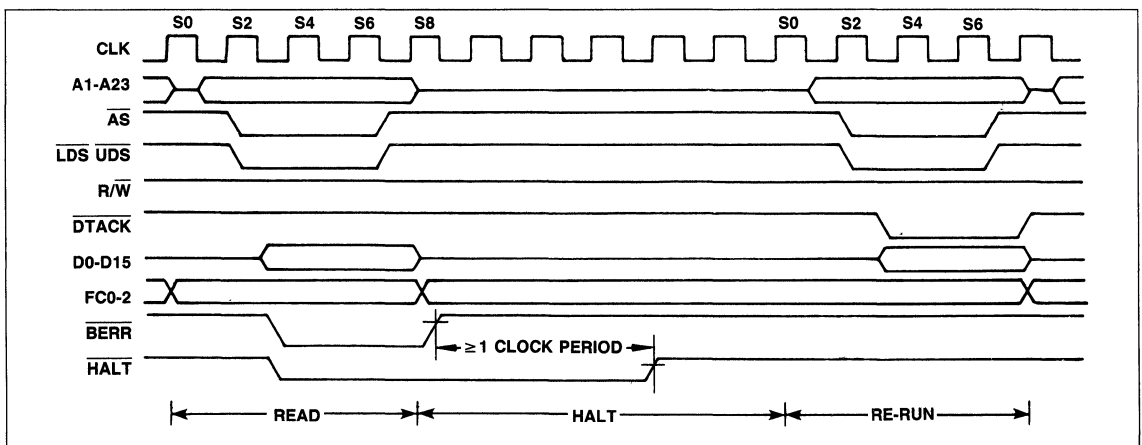

Figure 21. Re-Run Bus Cycle Timing Diagram
**Re-Running the Bus Cycle.** When, during a bus cycle, the processor receives a BERR, and HALT is being driven by an external device, the processor enters the re-run sequence. Figure 21 is a timing diagram for re-running the bus cycle.